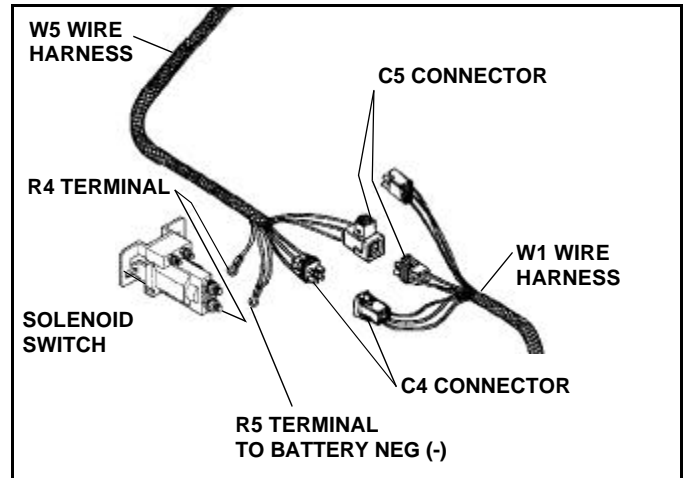
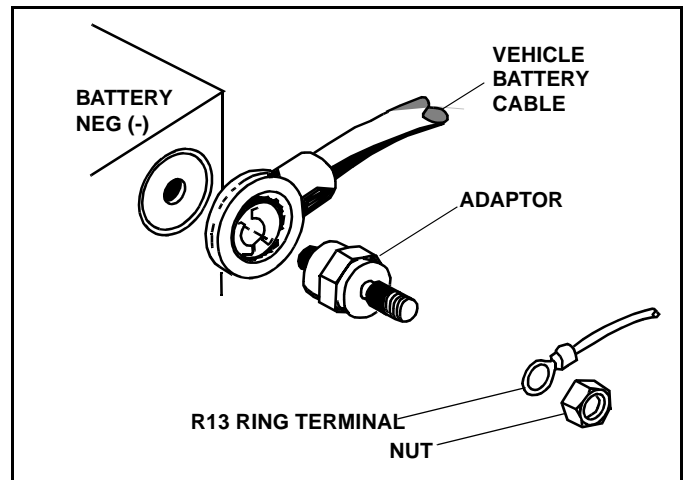
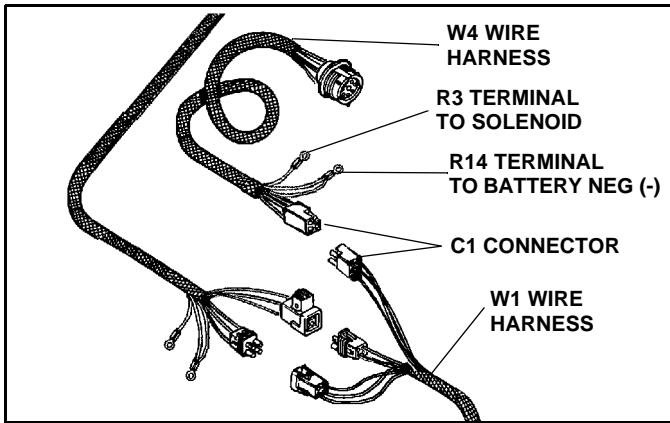

Figure 1-6
Figure 1-7
Figure 1-8
- Terminal R8 to the positive (+) side of the vehicle battery. (See Figure 1-7)
- Terminal R12 to the negative (-) side of the vehicle battery. (See Figure 1-7)
- R4 Terminal to the second large terminal on the Solenoid Switch. (See Figure 1-6)
- R5 Terminal to the negative (-) side of the vehicle battery (See Figure 1-7)
*NOTE: If the vehicle has a "side post" battery, it is recommended that adaptors be purchased to make connections at the vehicle battery easier. (See Figure 1-7) Adaptors can be purchased locally or are available from your Sno-Way Dealer, Part #96100773.*
- R14 Terminal to the negative (-) side of the vehicle battery. (See Figure 1-7) and (See Figure 1-8)
- R3 Terminal to the second large terminal on the Solenoid Switch, same terminal as R4 Terminal of W5 Wire Harness. (See Figure 1-6) and (See Figure 1-8)
- C1 Connector to W1 Wire Harness C1 Connector (See Figure 1-8)
16. Fasten each Wiring Harness with a tie strap behind the plug as shown in Figure 1-6 so that the Wiring Harness does not make any bend for at least 3" from the plug end.